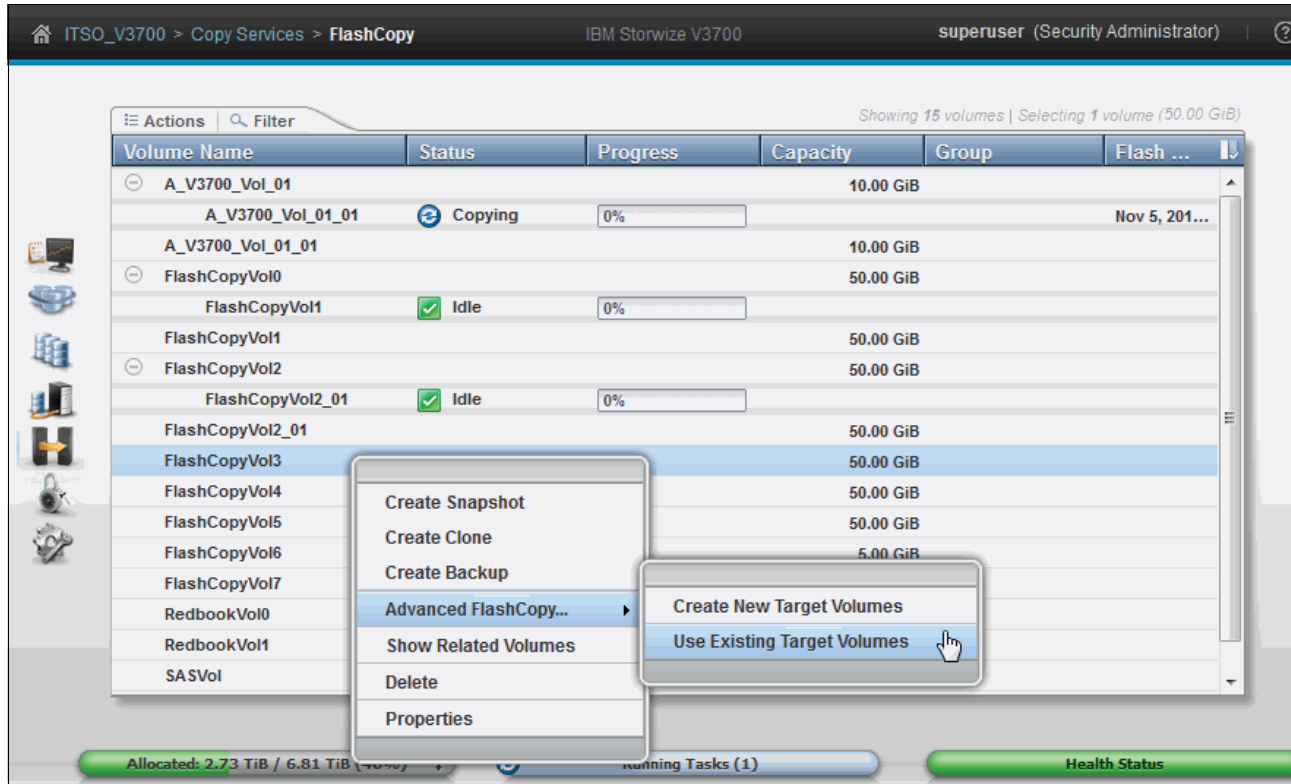

Figure 10-24 Create FlashCopy mapping using existing target volume
1. If you already have candidate target volumes, select **Use Existing Target Volumes** in the Advanced FlashCopy menu, as shown in Figure 10-24.